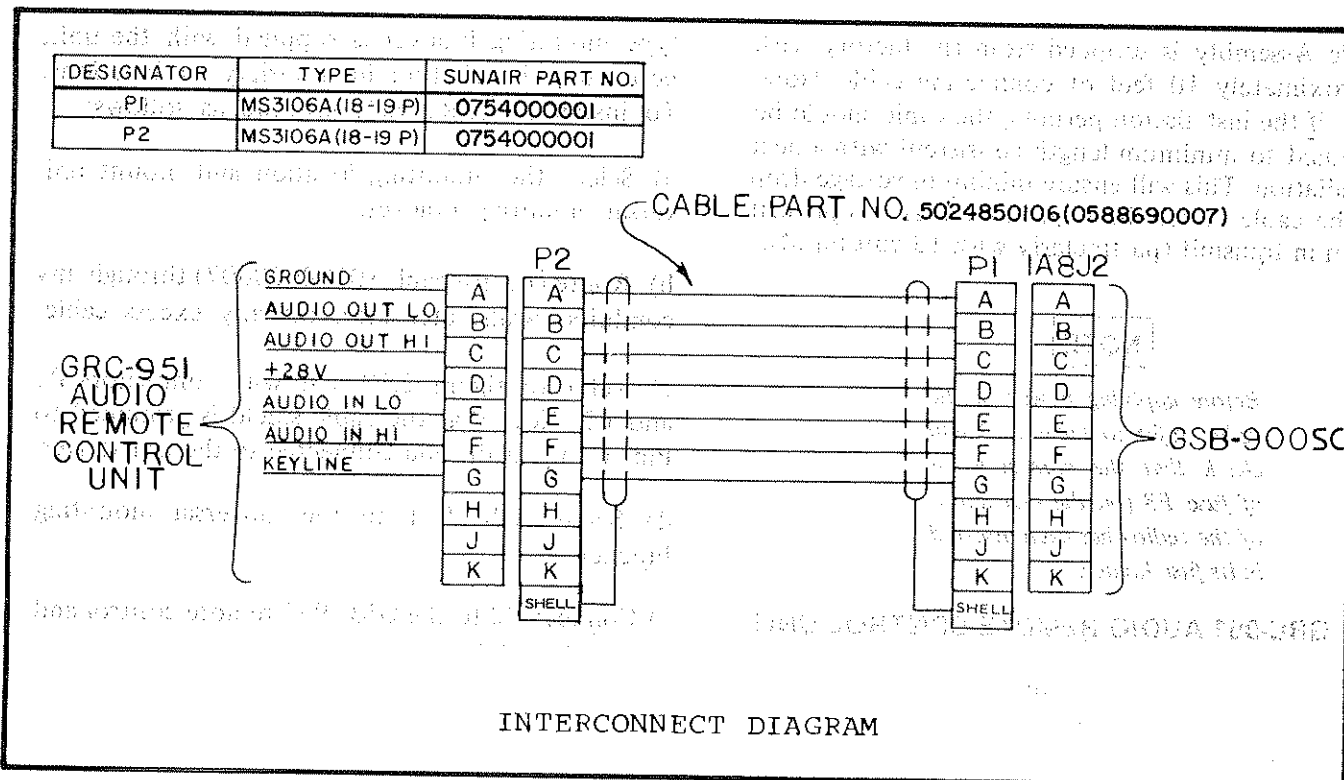

Figure 2.19 GRC-951 Audio Remote Control Unit Interconnect Diagram
- Refer to figure 2.19 and wire connectors P1 and P2. Note that the cable shield is grounded to Pin A only at the end connected to the transceiver.